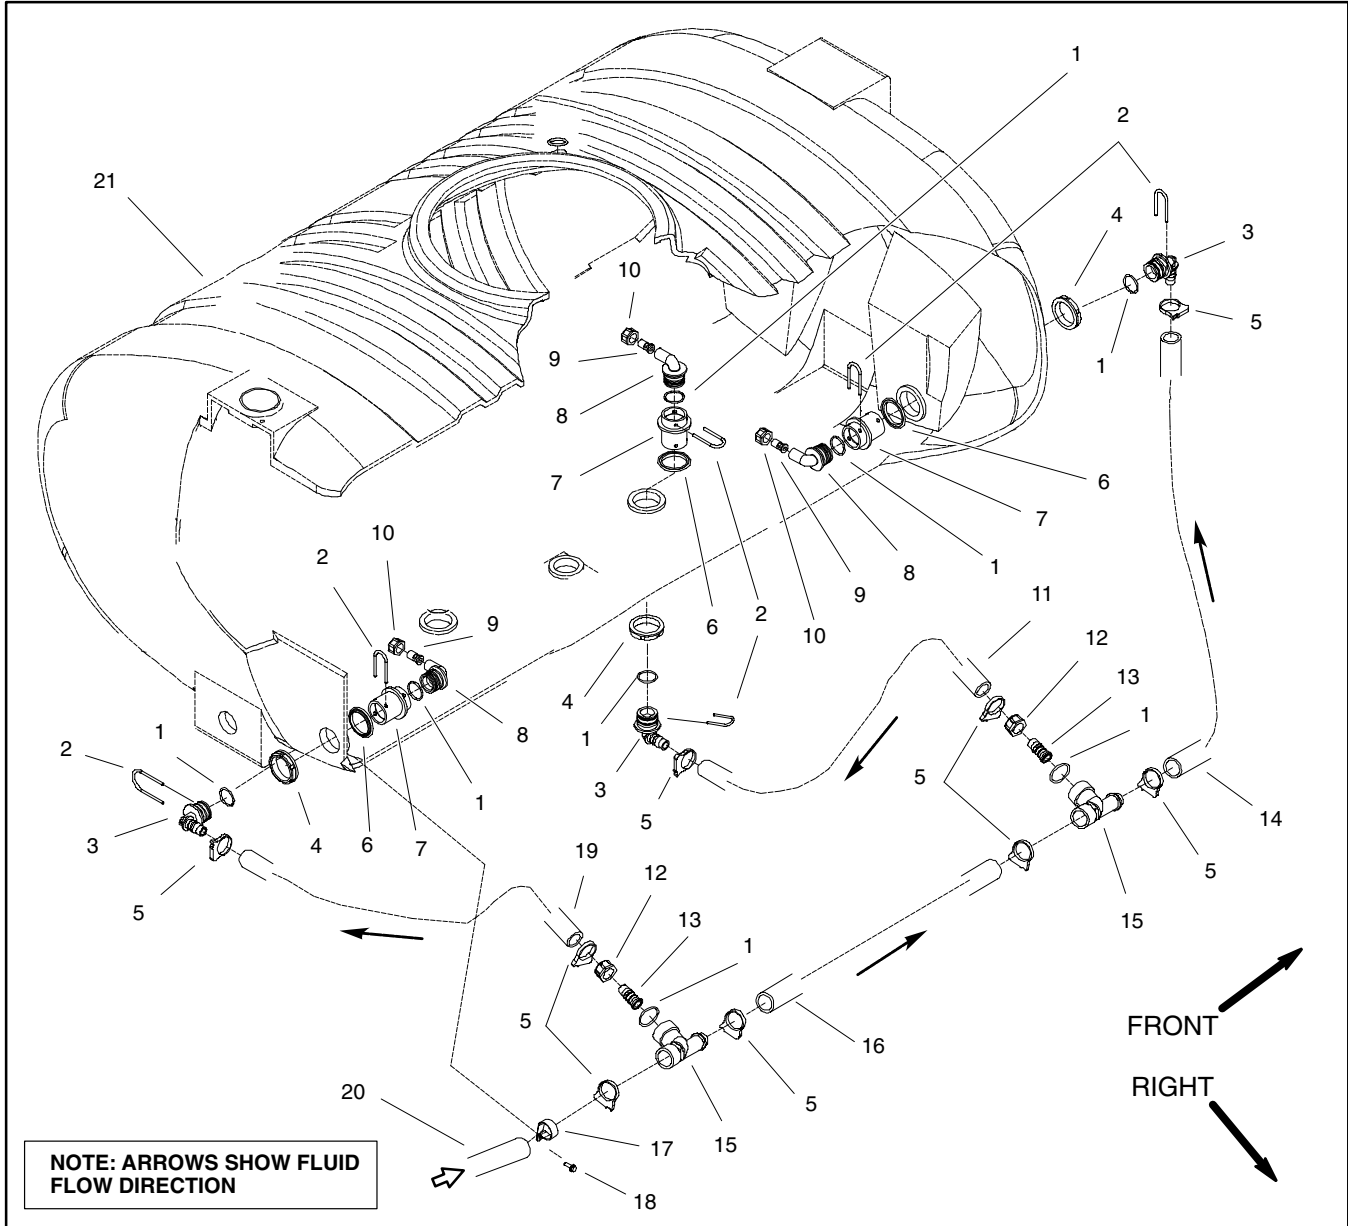

Figure 13
#### Disassembly (Fig. 13)
4. Remove agitation nozzles as required using Figure 13 as a guide. Discard all removed o-rings and gaskets.
#### Assembly (Fig. 13)
1. Install agitation nozzles using Figure 13 as a guide. Replace all removed o-rings and gaskets.